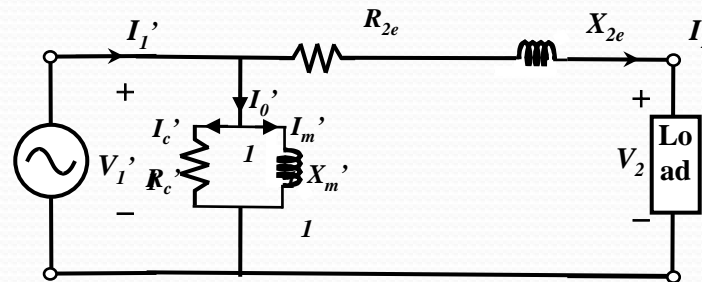

Figure 4.16 Approximate equivalent circuit referred to the secondary
- Similarly, the approximate equivalent circuit referred to the secondary side may be formed as shown in the following Figure 4.16.